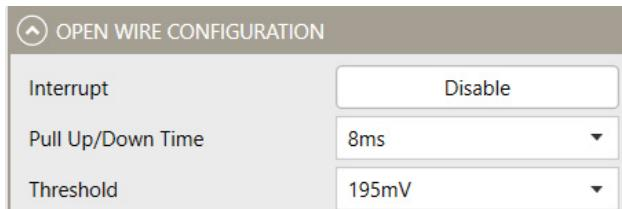

Figure 16: Open-Wire Configuration
11. Figure 16 shows how to configure open-wire parameters.